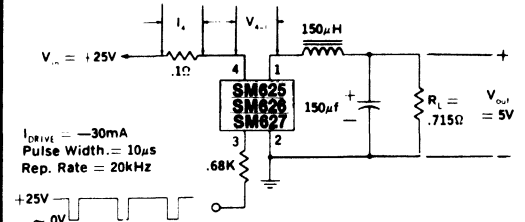

Figure 1. SM625, 626, 627 Switching Speed Circuit
- The efficiency is a measure of internal power losses and is equal to Output Power divided by Input Power. The switching speed circuit of Figure 1, in which the efficiency is measured, is representative of typical operating conditions for the SM600 series switching regulators.